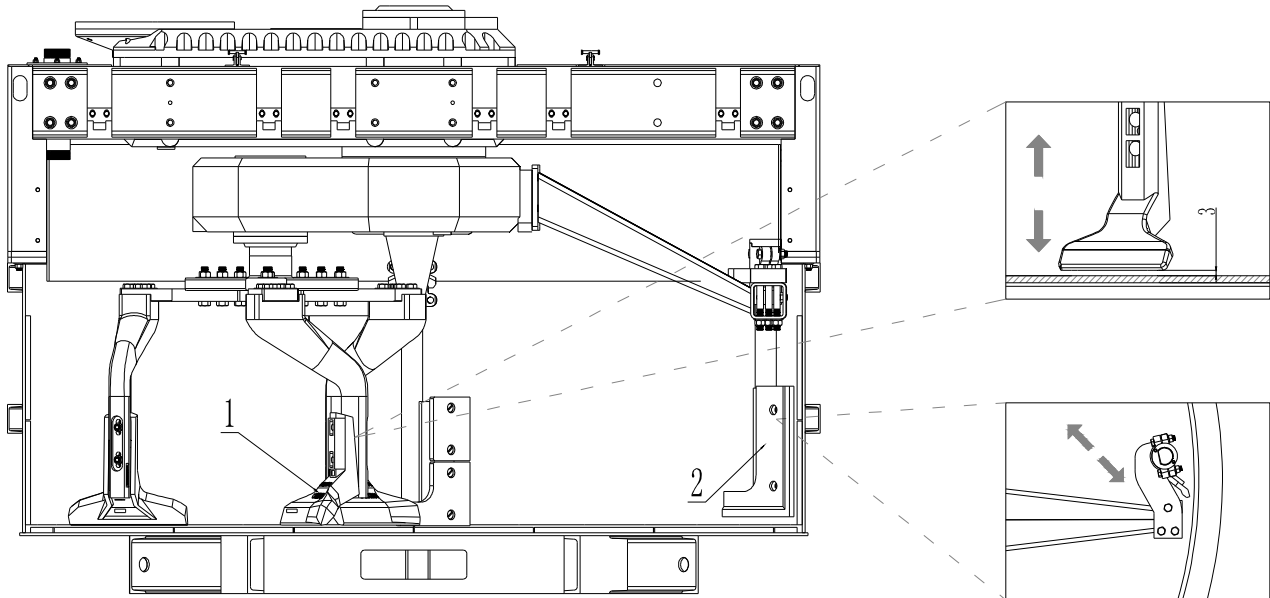

Fig 9
- a) Loosen the fastening screws (part 1 in Fig 9).